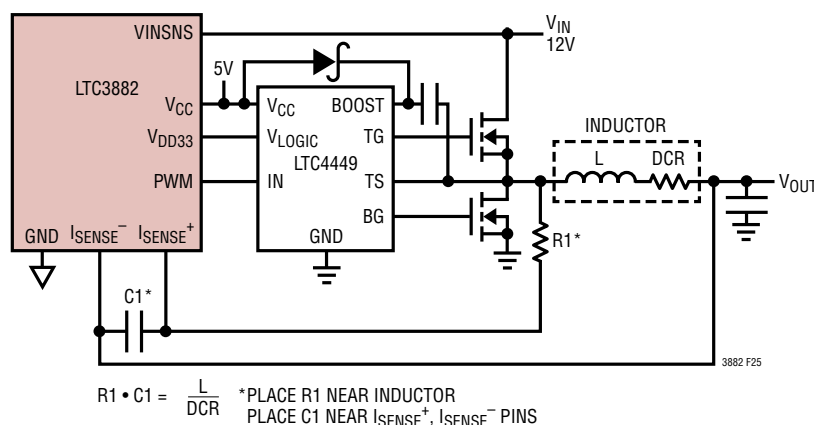

Figure 25. Inductor DCR Output Current Sense
5. Place the output current sense resistor (if used) immediately adjacent to the inductor output. PCB traces for remote voltage and current sense should be run together back to the LTC3882 in pairs with the smallest spacing possible on any given layer on which they are routed. Avoid high frequency switching signals and ideally shield with ground planes. Locate any filter component on these traces next to the LTC3882, and not at the Kelvin sense location. However, if DCR sensing is used, place the top resistor (R1, Figure 25) close to the switch node.
To maximize efficiency at full load the LTC3882 is designed to sense current through the inductor's DCR, as shown in Figure 25. The DCR of the inductor represents the small amount of DC winding resistance of the copper, which for most inductors suitable to LTC3882 applications, is between 0.3mΩ and 1mΩ. If the filter RC time constant is chosen to be exactly equal to the L/DCR time constant of the inductor, the voltage drop across the external capacitor is equal to the voltage drop across the inductor DCR. Check the manufacturer's data sheet for specifications regarding the inductor DCR in order to properly dimension